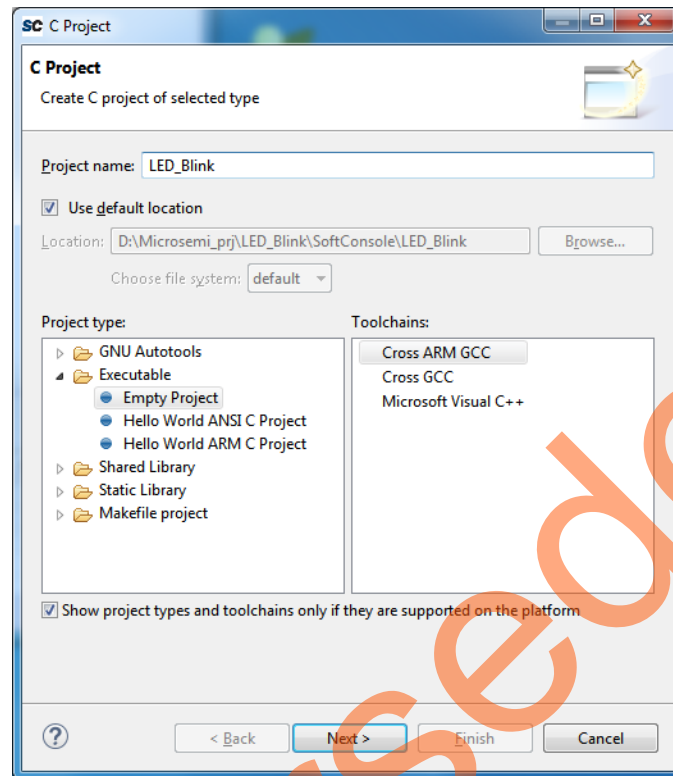

Figure 26 • C Project Window
4. Enter Project name as **LED_Blink**, as shown in Figure 26.